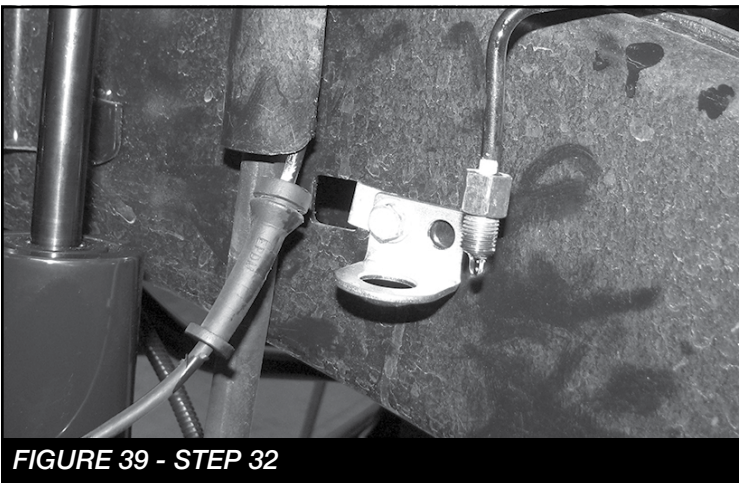

FIGURE 39 - STEP 32
32. Install the supplied brake line bracket in the factory location using the factory bolt. **SEE FIGURE 39**